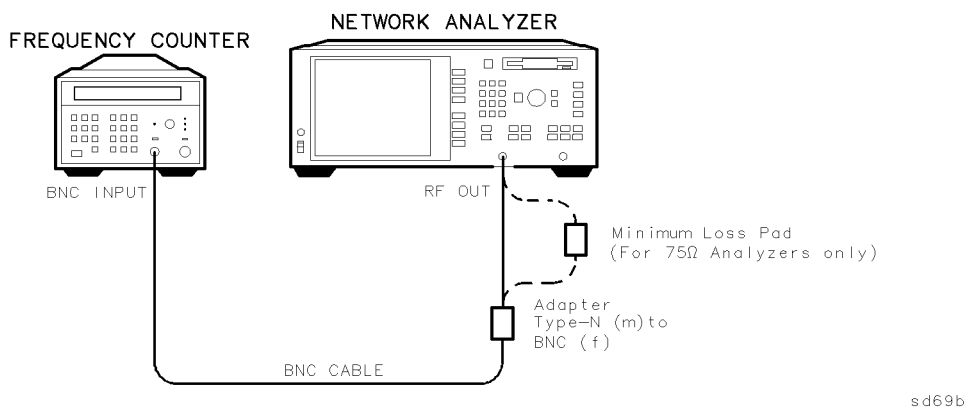

Figure 2-6. Setup for Frequency Accuracy Adjustment
1. Connect the equipment as shown in Figure 2-6.